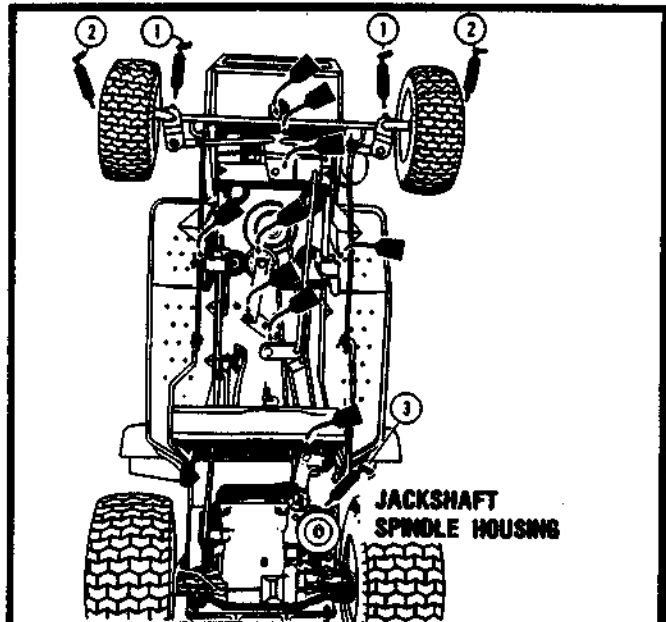

FIGURE 24
GREASE FITTINGS — FIGURES 24 & 26
1. Right and Left Steering King Pins — Figure 24.
2. Right and Left Front Wheels — Figure 24.
3. Jackshaft Spindle Housing — Figures 24 & 26.
POINTS TO OIL — FIGURES 24, 25 & 26
1. Periodically oil the lift point pivots, front axle pivot, control linkage pivots and the shaft pivots to insure long life and smooth operation of the parts. See Figures 24 and 26.